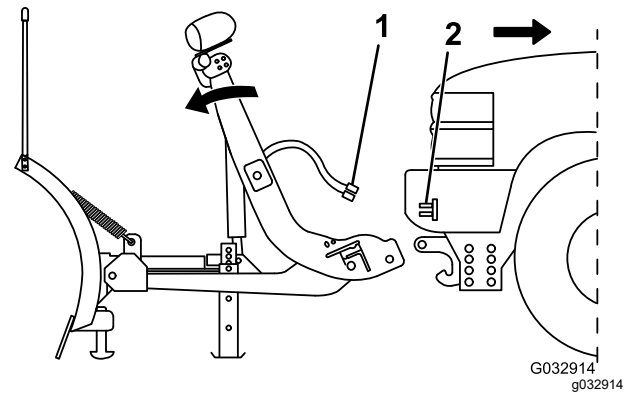

Figure 36
5. Push the SmartHitch2 switch on the side of the coupler tower up to release the pins, then down to lower the tower completely (Figure 36).
6. Disconnect the plow wire harness from the vehicle wire harness and secure the electrical-plug dust covers (Figure 36).